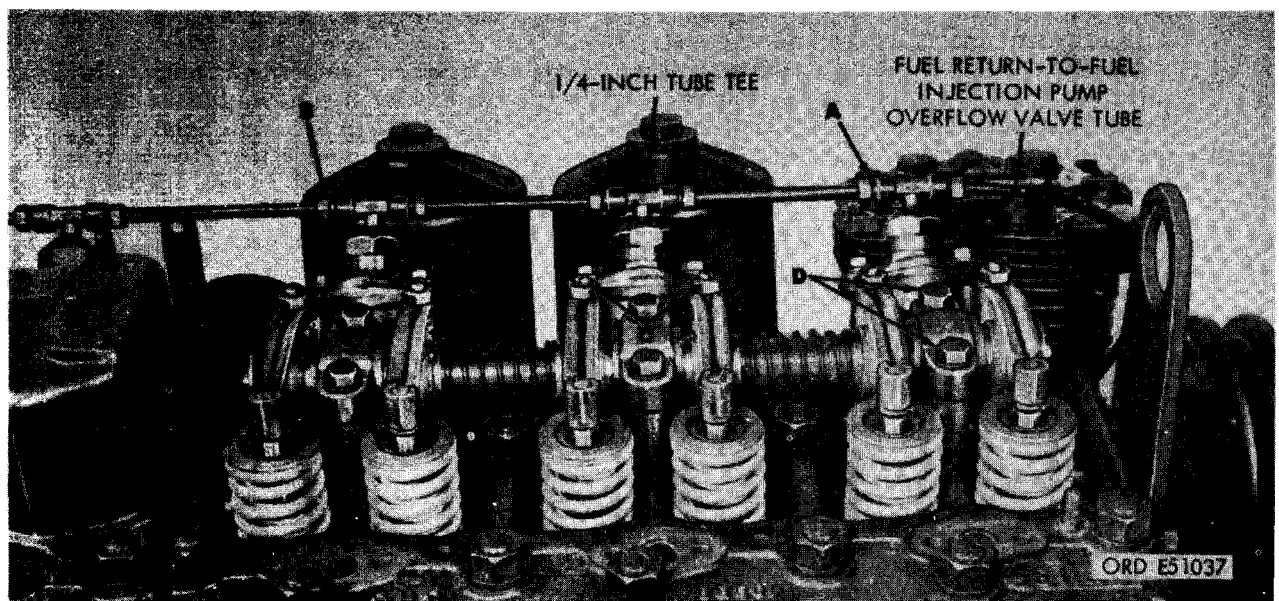

FIGURE 189. DISCONNECTING OR CONNECTING FUEL RETURN TUBES AND/OR REMOVING OR INSTALLING FRONT SET OF ROCKER ARMS.
- (5) Figure 189. (A) Disconnect 1/4-inch tube nut on fuel return-to-fuel injection pump overflow valve tube from 1/4-inch tube tee in cylinder No. 1 fuel injector nozzle and holder assembly. (B) Disconnect the 1/4-inch tube nuts on fuel injector nozzle fuel return tubes from the 1/4-inch tube tee in fuel injector nozzle and holder assembly for cylinder No. 3. (C) Loosen six valve rocker adjusting screw lock nuts and alternately loosen valve rocker adjusting screws to relieve valve spring tension. (D) Remove six 3/8 x 2-1/2 cap screws and 3/8-inch lock washers securing the front set of rocker arms to front cylinder head. Remove the front set of rocker arms.
- (3) Refer to figure 189 and reverse the sequence of instructions to install the front set of rocker arms and to connect fuel injector nozzle fuel return tubes.
fer to figure 189, steps A and B, and reverse the sequence of instructions to connect fuel return tubes to nozzle assemblies.